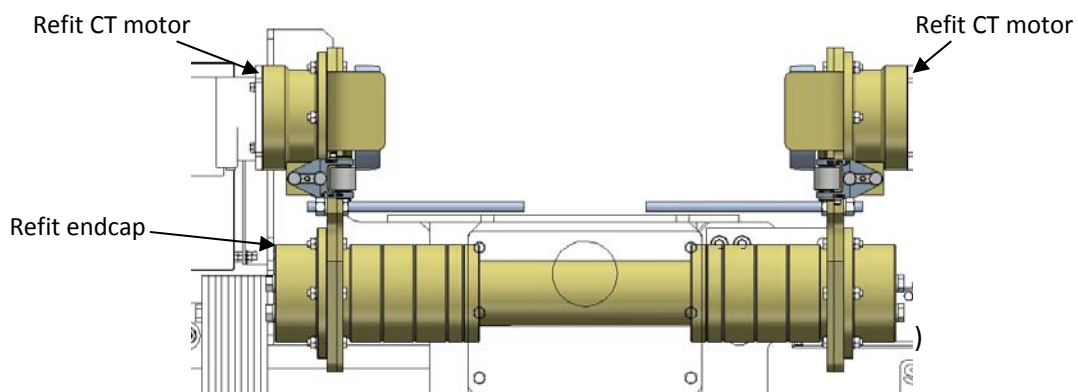

Figure 26 – Endcap refitted
- Ensure the safety bars (see Figure 26) are in contact with the top of the beam and release.
**It is very important that the positions of the trolley plate assemblies and spacers are mirrored exactly, ensuring the beam is central, see Figure 26.**
- Refit the Endcap 'Electrical Panel Side', fit and tighten M16 Hex Screws (3) to 20 Nm. Refit the CT motors, and tighten M8 Flanged Hex screws (4) to 24Nm, see Figure 26.